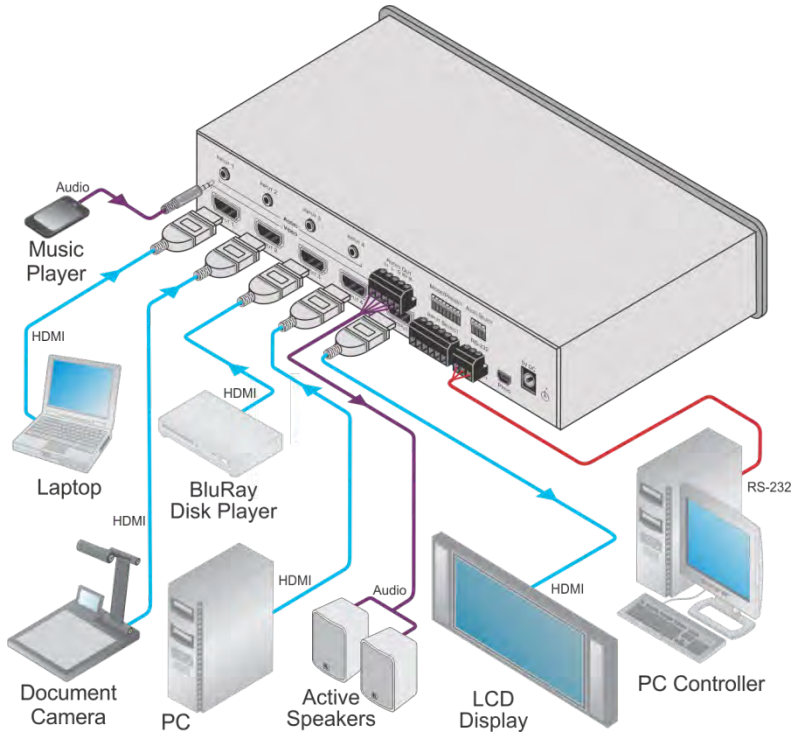

Figure 2: Connecting the VS-411UHD UHD 4x1 Auto Switcher
To connect the **VS-411UHD** as illustrated in the example in Figure 2:
9. Connect the 5V DC power adapter to the power socket and connect the adapter to the mains electricity (not shown in Figure 2).